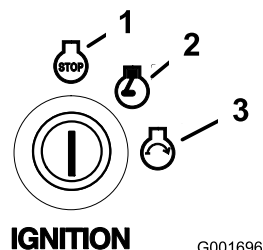

Figure 14
6. Turn the ignition key to the Start position (Figure 14). When the engines starts, release the key.
4. Turn the ignition key to the Off position and remove the key (Figure 14).